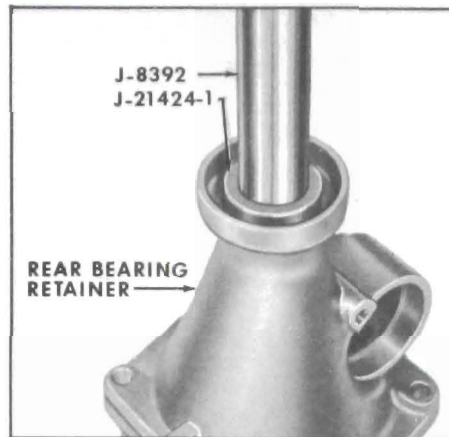

Figure 5-334
1. Using Drive Handle J-8392 and Installer J-21424-1 install rear bearing retainer bushing. See Figure 5-334.